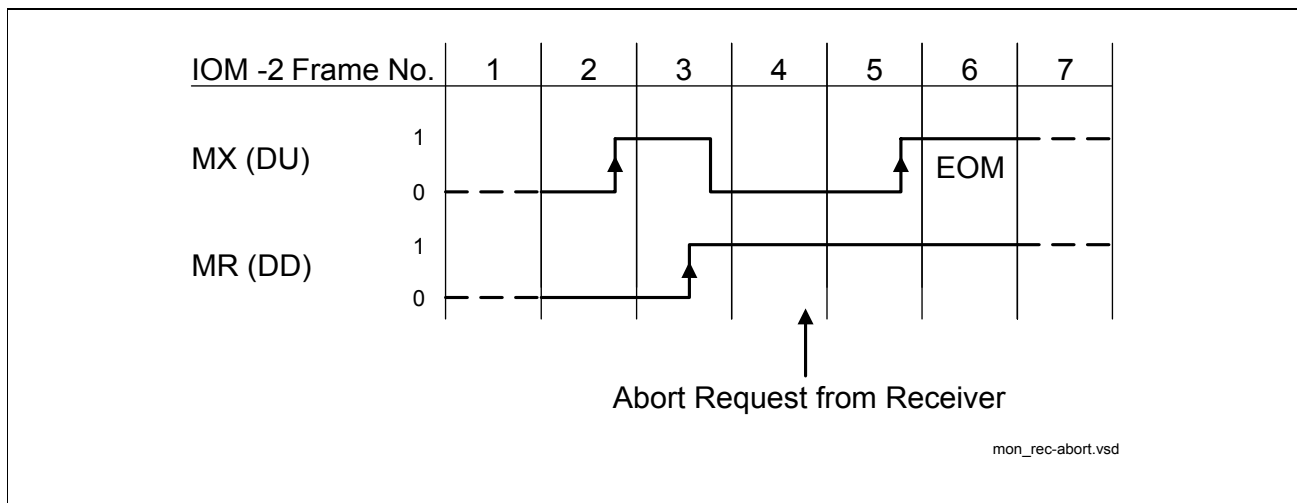
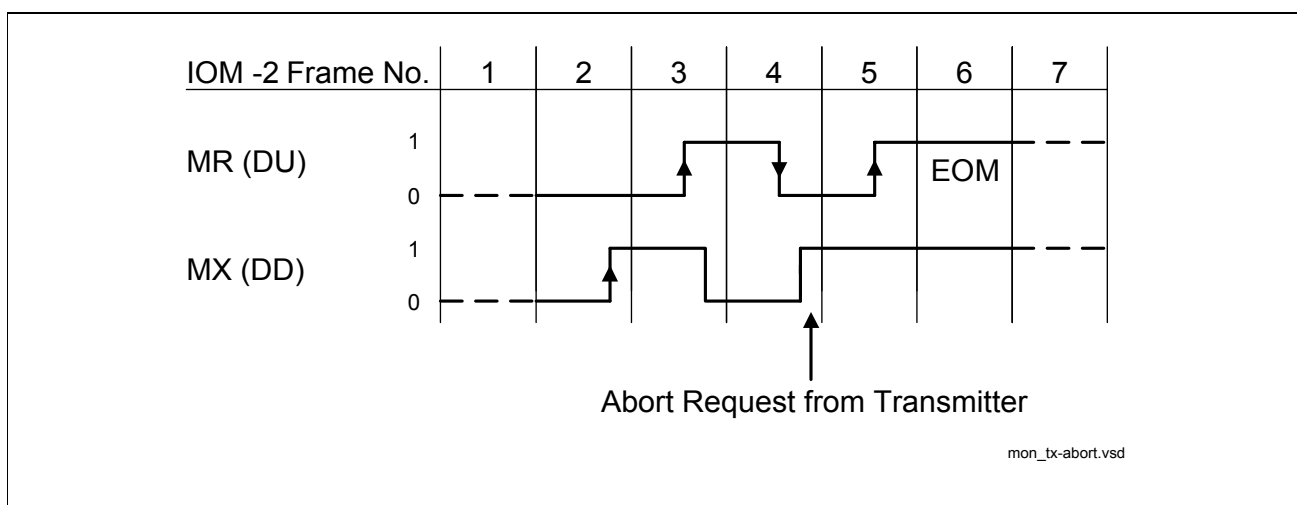
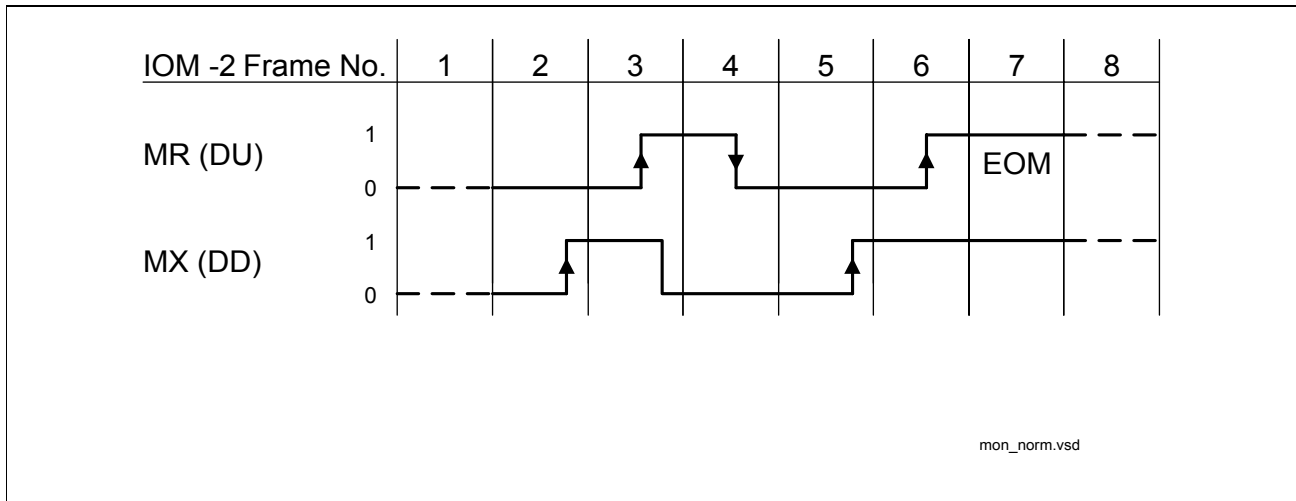

**Figure 60** Monitor Channel, Transmission Abort requested by the Receiver
**Figure 61** Monitor Channel, Transmission Abort requested by the Transmitter
**Figure 62** Monitor Channel, Normal End of Transmission
**Figure 60** shows an example for an abort requested by the receiver, **Figure 61** shows an example for an abort requested by the transmitter and **Figure 62** shows an example for a successful transmission.